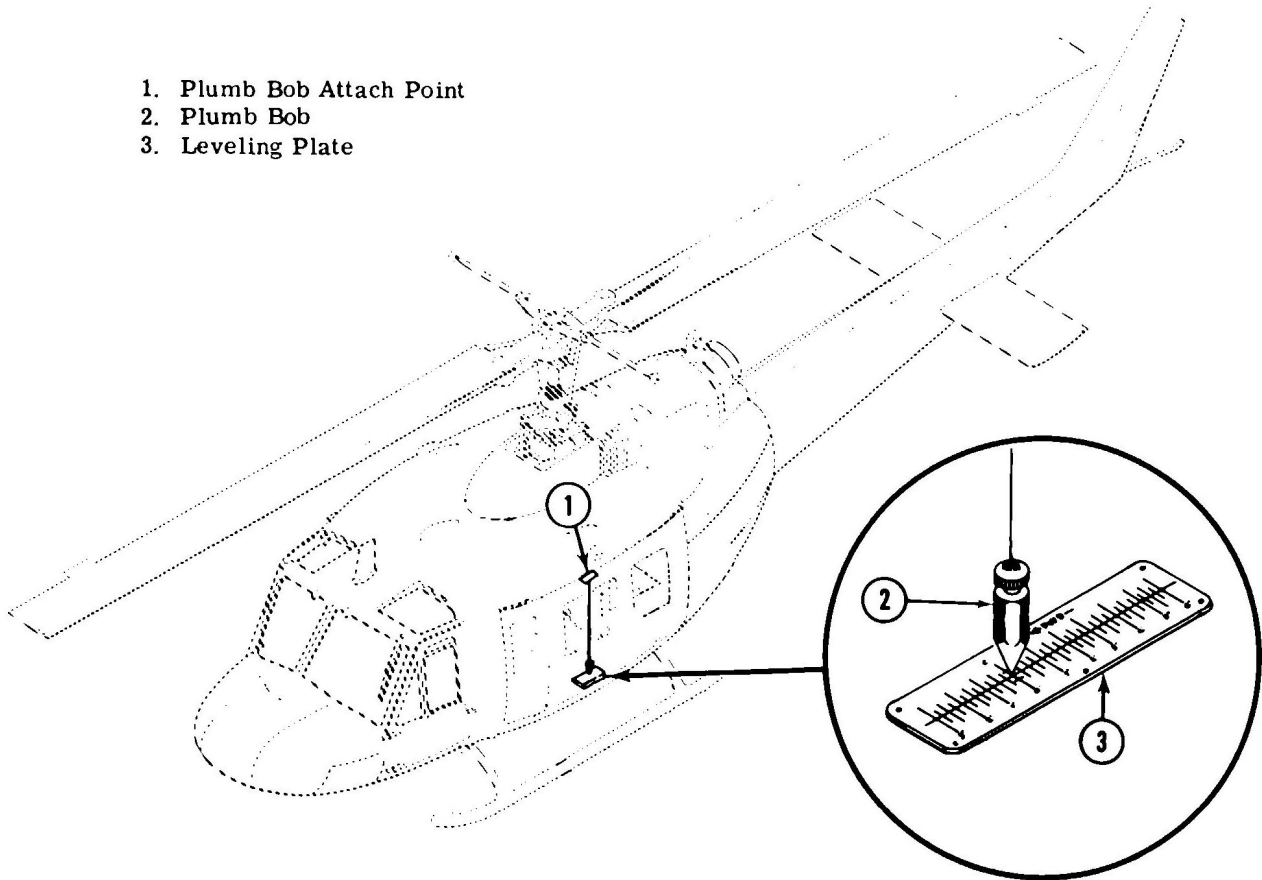

Figure 8-1. Leveling
*Leveling plate (2, Figure 8-1) is graduated in increments of 1/4°. The plate is located on cabin floor just inside left passenger cargo door. A slotted hole in upper door frame is provided for suspension of a plumb bob (1).*